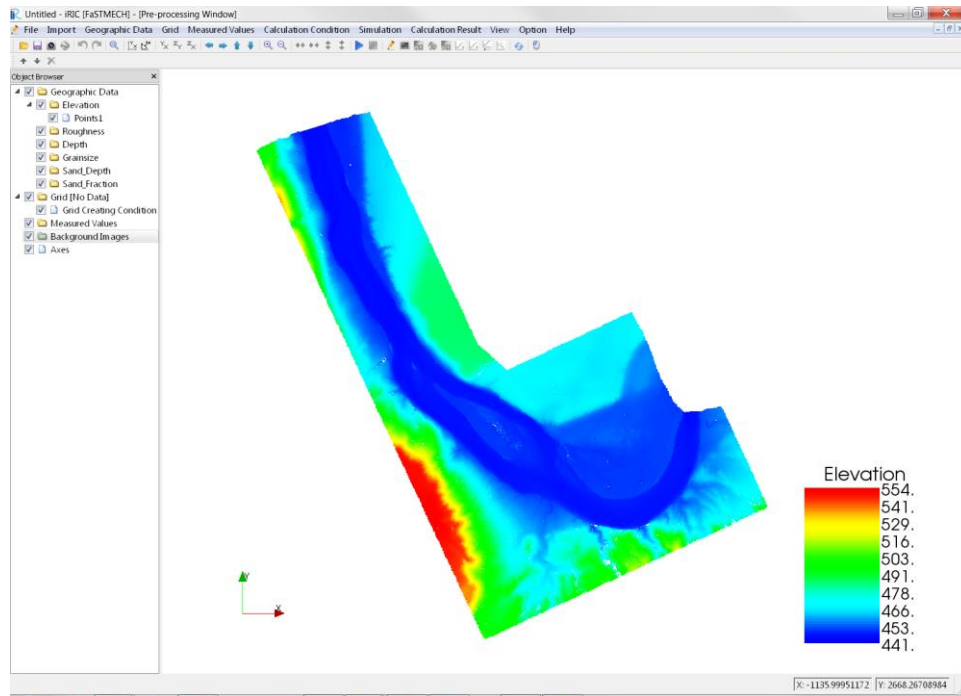

Figure 2. Pre-processing Window display of the Elevation data.
- The Pre-processing Window now displays the topography data in the canvas and new data appears in the **Object Browser** under Geographic Data | Elevations | Points1 (Figure 2). In the Object Browser the topography can be made visible or not visible by checking or unchecking the box next to Elevation. Add a scalebar from the **Menu Bar** by selecting Geographic Data ► Set up Scalarbar. Make sure Elevation is displayed in the drop down menu and check the Visible box (Figure 2).